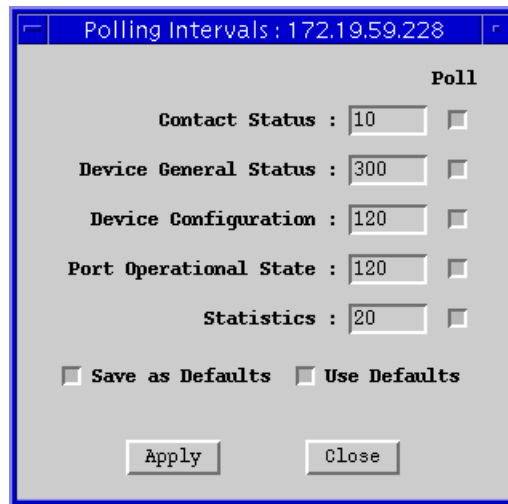

Figure 2-11. The Polling Intervals Window
2. Drag down to **Polling Intervals**, and release. The SEHI100TX Polling Intervals window, Figure 2-11, will appear.